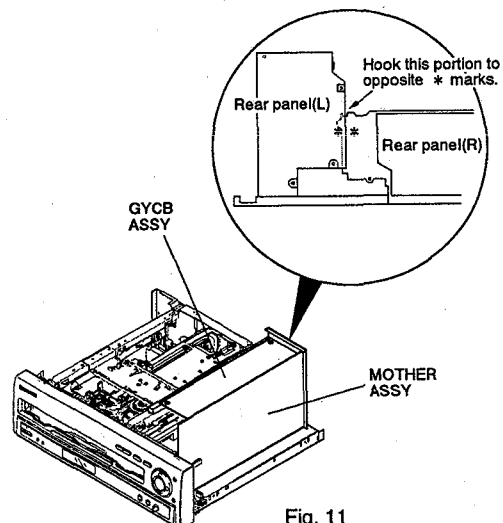

Fig. 11
- ④ Loosen the binder for fixing flat cable in the MOTHER assy.
- ⑤ While pulling up the Rear panel (L) toward the rear, MOTHER assy will be removed with the Rear panel (L). Then MOTHER assy can be diagnosed by standing it as shown in Fig. 11.